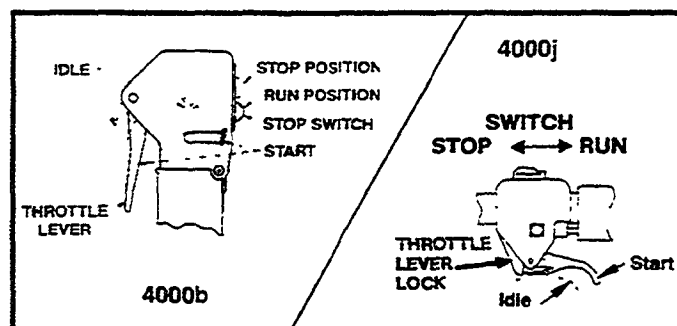

Figure 9
- Push red button to run position. (Figure 9).
- Lock throttle lever in the start position as shown in (Figure 9).
- Push the red button to stop position. (Figure 9).